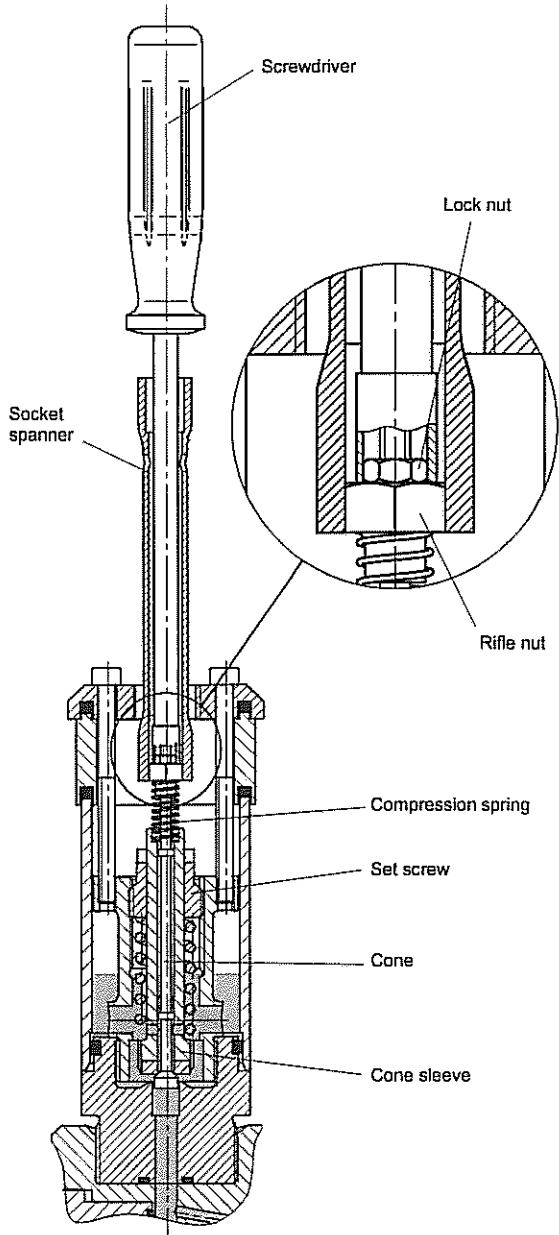

Fig. 45
- Put smaller socket spanner through bigger socket spanner, loosen lock nut and remove socket spanner (see Fig 45).